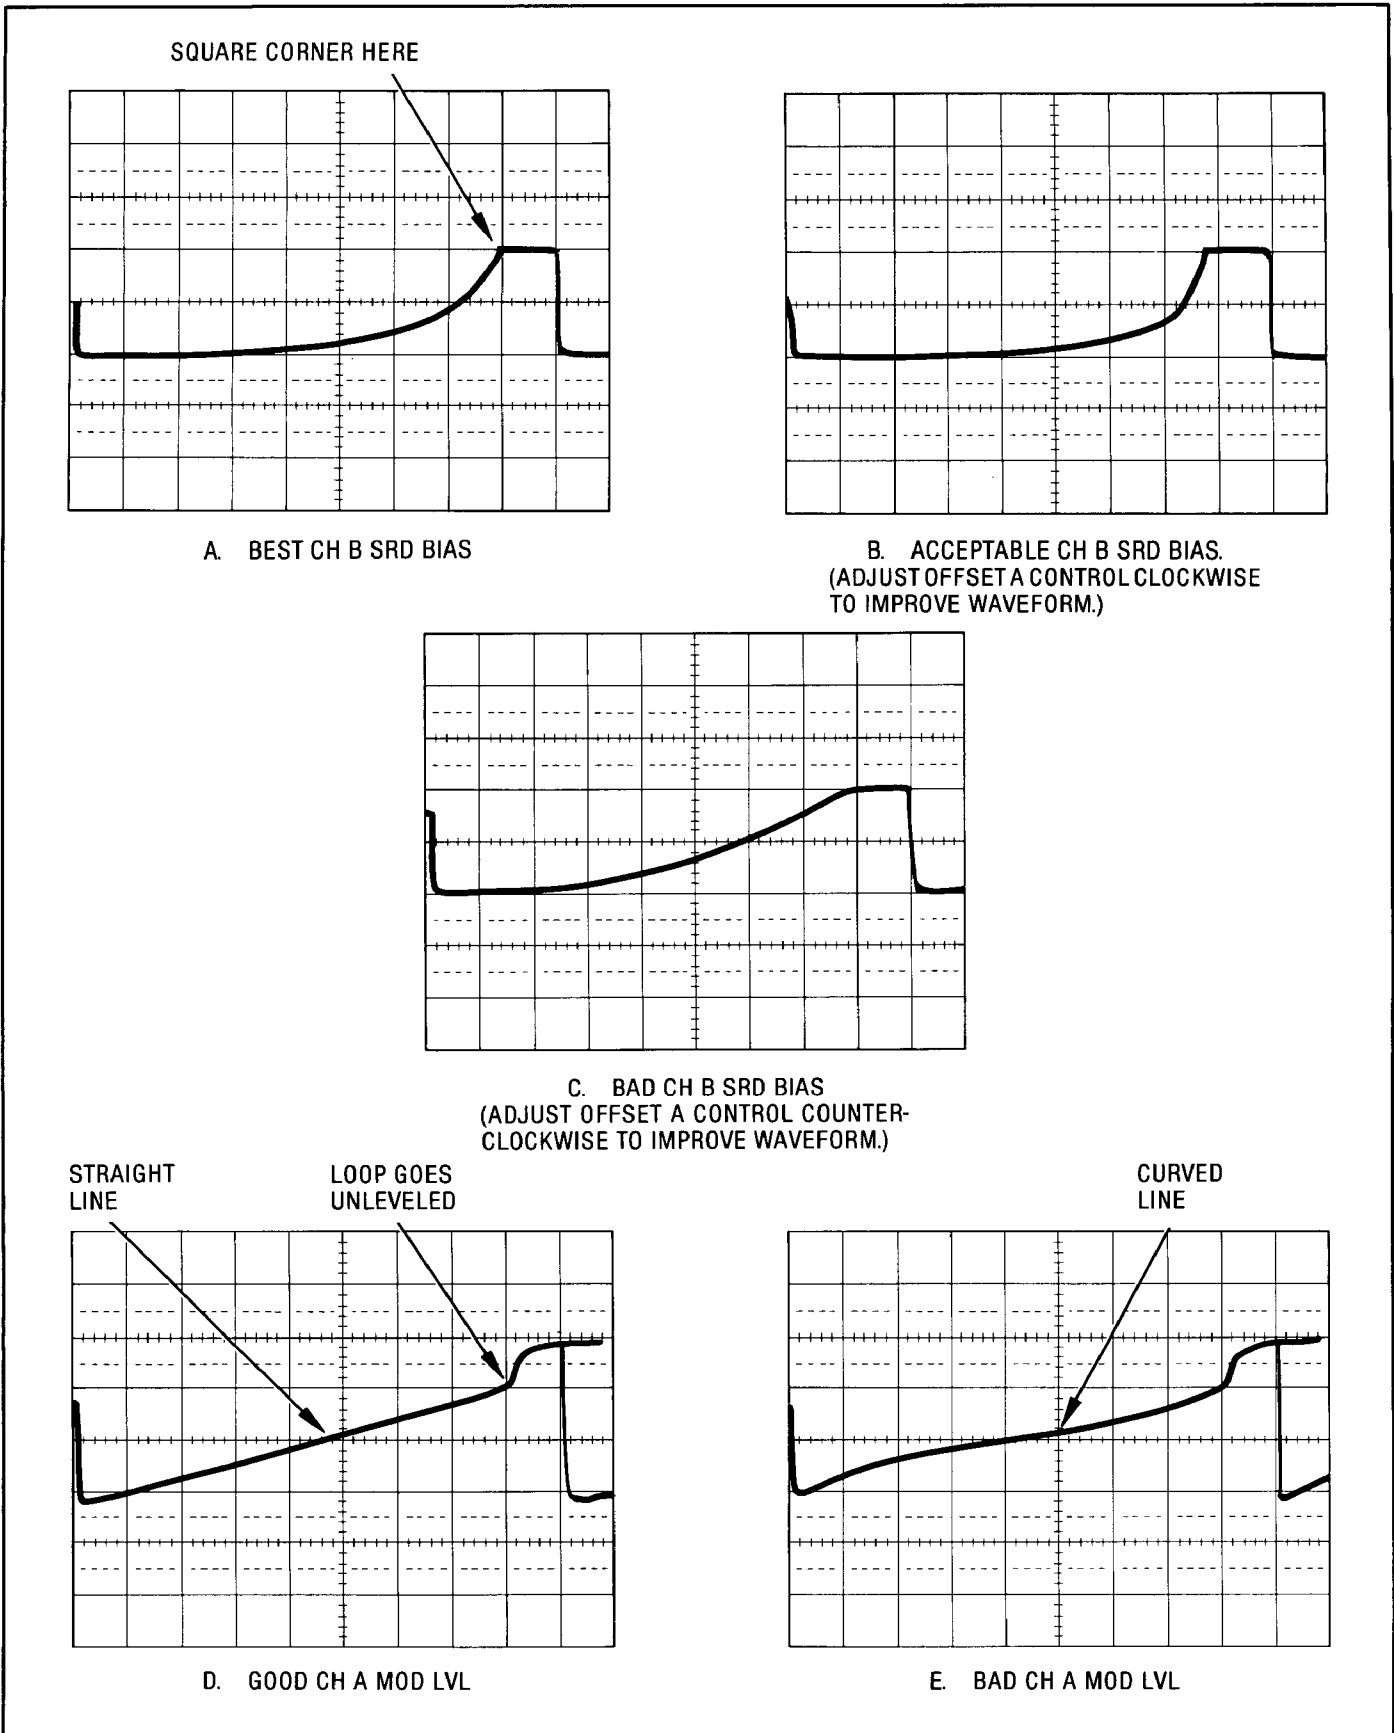

Figure 5-51. Typical MOD LVL and SRD BIAS Waveforms
- Center A24R12 MIN control and A24R5 X2C control. Adjust A24R1 OFF A for optimum display as shown in Figure 5-51, Waveform A, B, and C.
- Press 8340A **[CW]** and enter **[1] [0] [.] [6] [GHz]**. Adjust A24R2 OFF B for optimum trace as shown in Figure 5-51, Waveforms A, B, and C. Using the **[STEP]** keys, step through Band 2 from 7 to 13.4 GHz and check for an optimum SRD Bias trace (Figure 5-51, Waveforms D and E) at each step. If not optimum, adjust A24R2 OFF B if the 8340A frequency is closer to 13.5 GHz, or adjust A24R1 OFF A if the frequency is closer to 7 GHz. If an adjustment is made, step through the entire band again, making sure every step is optimized or acceptable if all steps cannot be optimized.
- Press **[RECALL] [1]** then press **[CW]** and enter **[1] [0] [.] [6] [GHz]**. Change oscilloscope EXT TRIGGER to NEG. TRIGGER, DISPLAY CHOP; CH A to .05 V/DIV, and CH B to 0.1 V/DIV. Adjust A24R5 X2C to minimize the MOD LEVEL voltage at the start of the power sweep and keep the MOD LEVEL power sweep trace straight with no steps or "bows" as it sweeps up. Using the **[STEP]** keys, step through band 2 from 7 to 13.4 GHz and readjust A24R5 X2C if necessary to improve the MOD LEVEL trace. Also, adjust A24R1 OFF A and A24R2 OFF B if necessary to optimize the SRD Bias as in step 8 above. If any adjustments are made, step through band 2 again until the SRD bias and the MOD LEVEL trace is optimized. It will not be possible to adjust the MOD LEVEL trace for optimum at each step, so adjust for best compromise trace all across Band 2. (See Figure 5-51.)
power sweep and keep the MOD LEVEL trace straight with no “bows” as it sweeps up. (Refer to Figure 5-51.) Press **[RECALL] [1]** then **[CW]** and enter **[1] [7] [.] [5] [GHz]**. Adjust A24R8 X3C for a MOD LEVEL trace as described above. Using the **[STEP]** keys, step through Band 3 from 13.5 to 19.9 GHz and readjust if necessary to achieve the best MOD LEVEL trace across Band 3.
The SRD bias trace is adjusted in Band 2 with A24R1 OFF A and A24R2 OFF B for optimum. It should not require any other adjustments in Bands 3 or 4, unless the SRD bias trace is bad as shown in Figure 5-51. If either the OFF A or OFF B controls are adjusted in Bands 3 or 4, then each band will have to be rechecked, starting with Band 2 at 7 GHz and stepping through each band.